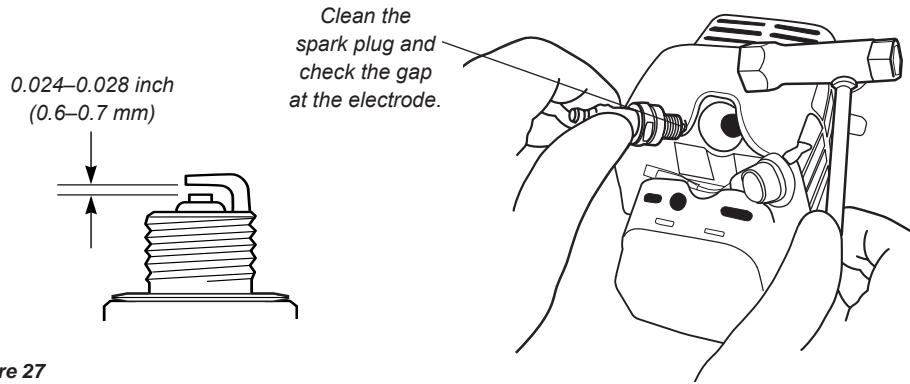

Figure 27
- Remove and clean the spark plug. Adjust the spark plug electrode gap to 0.024-0.028 inch (0.6-0.7 mm). If the spark plug must be replaced, use only an BPMR6A or equivalent resistor type spark plug of the correct heat range. See Figure 27.